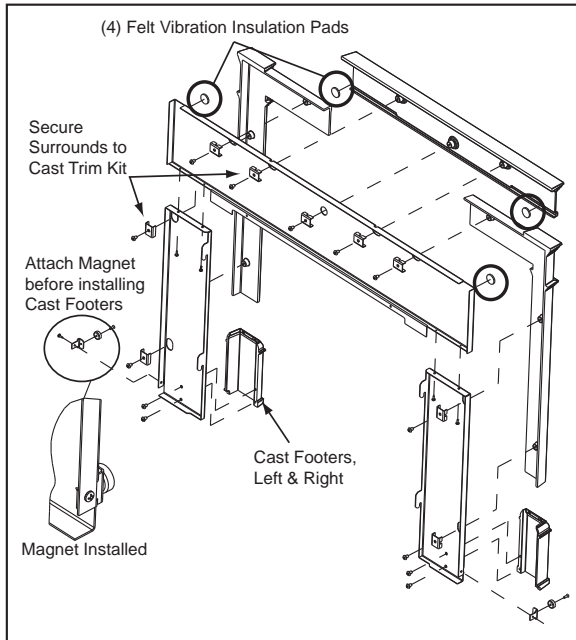

Figure 23.1
**Included in Surround Kit:** (2) side surrounds, left and right; (1) surround top; (1) fastener package.
**Included in Cast Trim Kit:** (2) cast trim legs, left and right; (1) cast trim header; (2) cast trim footers, left and right
1. Place the peel and stick round felt vibration insulation pads on the front side in each corner of the top metal piece and on the back side in each corner of the top cast piece. **Figure 23.1 on page 23**
- b) Attach the magnets to the magnet brackets with one countersink screw each. Attach magnet and bracket to the metal surround sides with magnet facing the front as shown in **Figure. 23.1 on page 23.**
2. Install the left log first and then the right log. **Figure 23.1**